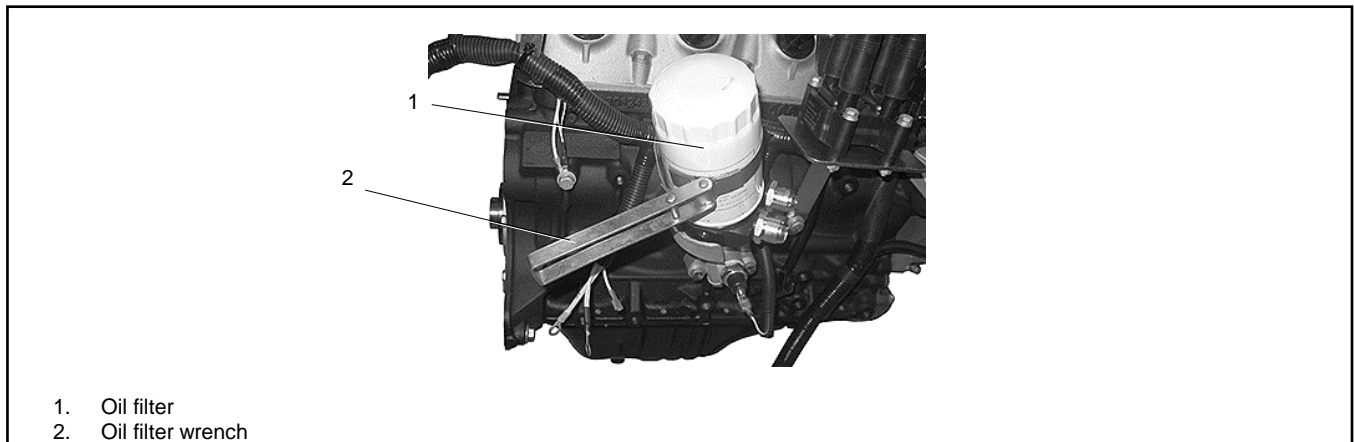

Figure 21 Oil Filter with wrench
4. Using an oil filter wrench, remove the old oil filter. See Figure 21.